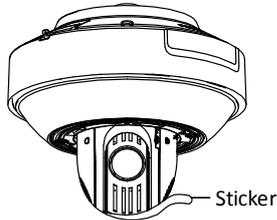

Figure 1-17 Remove the Sticker
2. Remove the protective foam, sticker and lens cover from the camera drive. As shown in Figure 1-17.